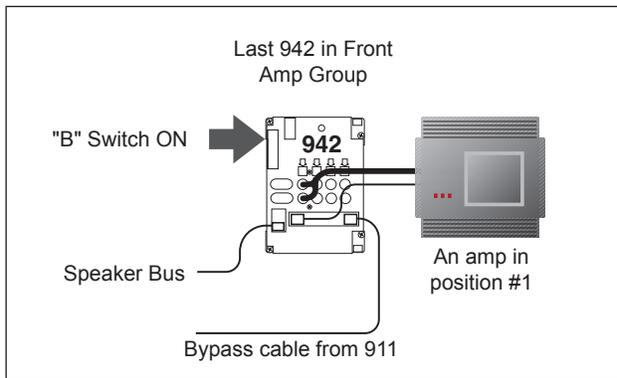

Figure 31. Amplifier Bypass configuration. No amp may be connected to position #4.
2. Connect one end of the Front High-Level Bus to the fourth position on the last 942 module in the Front Amplifier product group (See Figure 31). Turn on the "B" switch to activate bypass on that module.